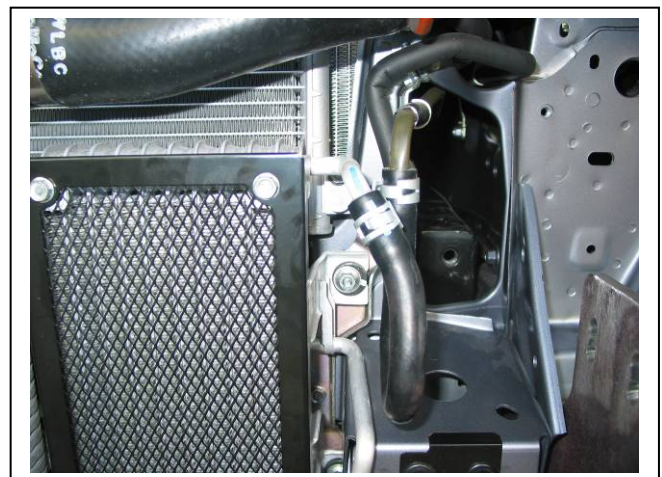

Figure 4
8. Gently bend front tube on oil cooler vertically (if fitted) as per **figures 4 and 5**, to clear mount. **CAUTION:** Excessive force will damage cooler.